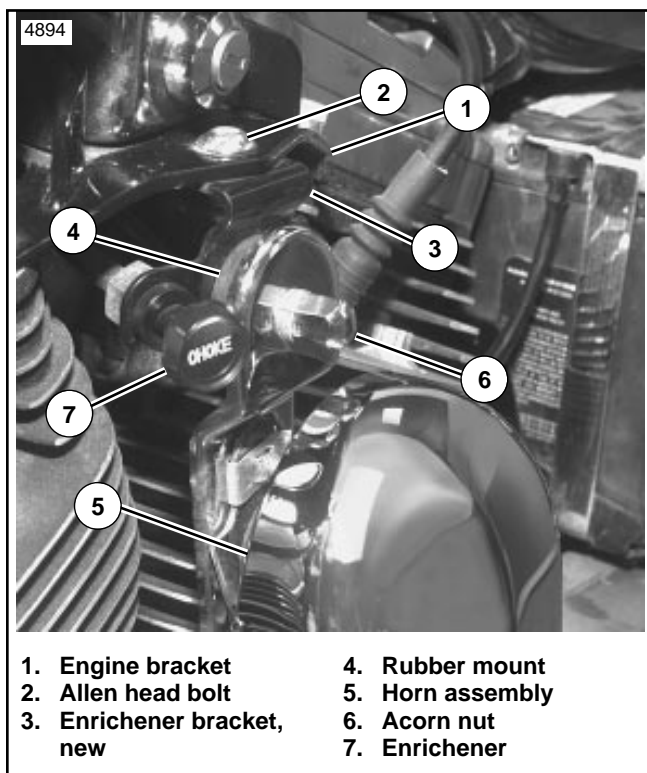

Figure 3. Horn Assembly Installation - 1992 - 1994 Models
6. See Figure 3. Loosen ignition switch housing nut on underside of engine bracket (1). Remove allen head bolt (2) and existing enrichener bracket (not shown) from top of engine bracket (1).
7. Install new enrichener bracket (3) from kit (in same location as original) using new allen head bolt (2) from kit. Tighten to 6-120 **in-lbs** (6.7-13.5 **N-M**.)
9. Install rubber mount (4) onto enrichener bracket (3).
12. Position horn assembly (5) into place onto rubber mount (4). Install lockwasher over stud. Secure assembly using acorn nut (6) from kit. Tighten to 60-180 **in-lbs** (6.7-20 **N-M**.)